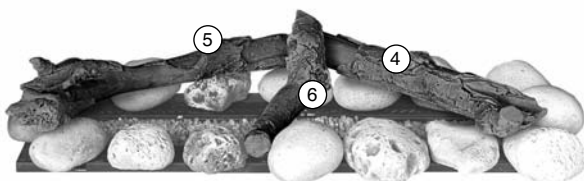

Fig. 27
4. Locate the log and pine cone pieces in order as shown in Figs. 27 to 31.